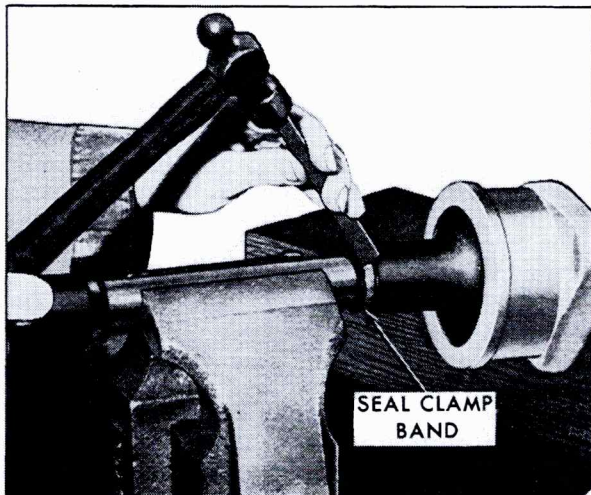

Fig. 3-59 Removing Seal Clamp Bands
2. Remove inner and outer seal band clamps as shown in Fig. 3-59.
2. Remove small seal clamp band as shown in Fig. 3-59.